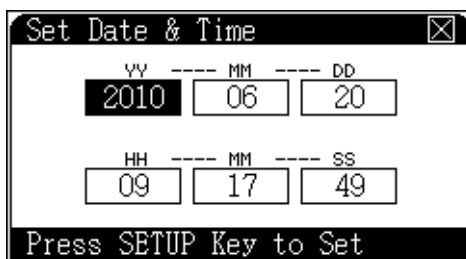

Figure 15 Set date and time
- 2 Press **[Setup]** to open a data entry window as shown in Figure 15 on page 31.